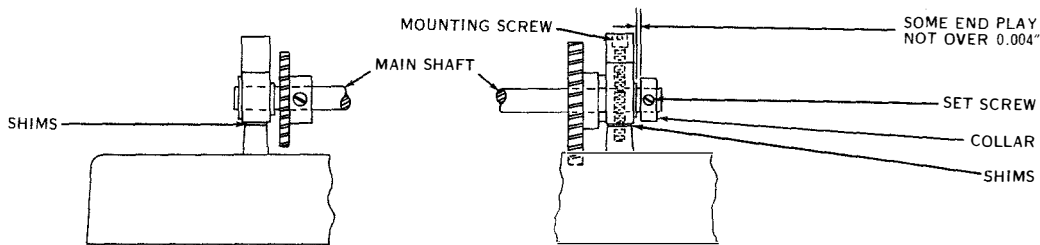

Figure 7-109. Main Shaft
(1) MAIN SHAFT. (See figure 7-109.)